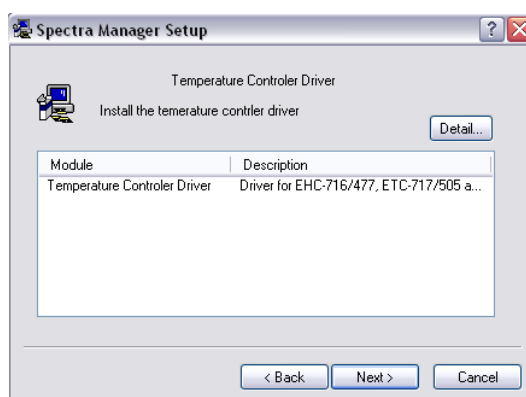

Figure 2.3 Recognized [Temperature Control] program
- (3) Click the <Next> button. The recognized program appears as shown in Figure. 2.3.